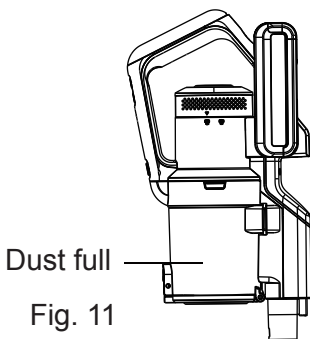

Fig. 11
1. When the dust container reaches the MAX line marked on the container (fig 11) or when the suction power is reduced, it is time to empty the dust container.